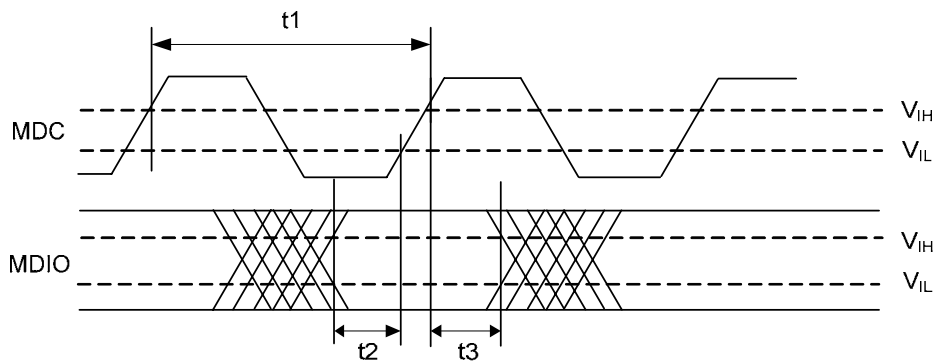

Figure 21. MDIO Sourced by Master (MAC)
- The timing characteristics t_1 , t_2 , and t_3 (Figure 21) of the Master (MAC) are provided by the Master when the Master sources the MDIO signal (Write command)